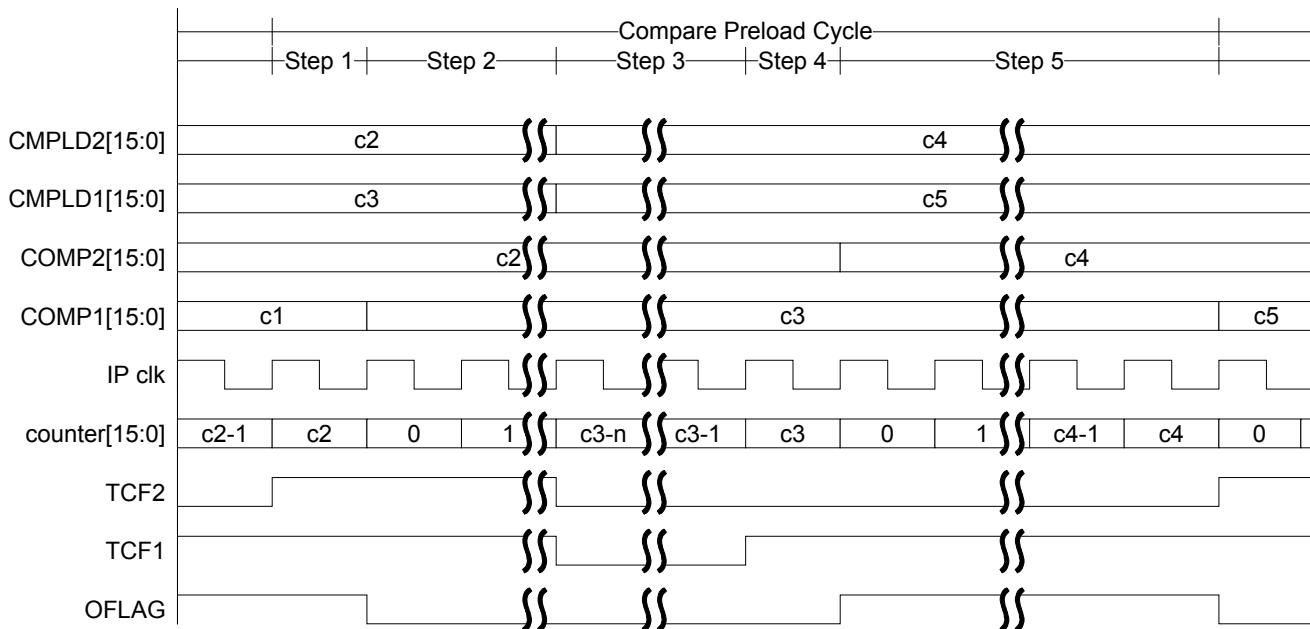

Figure 12-17. Compare Load Timing
- Timing - Figure 12-17 contains the timing for using the compare preload feature. The compare preload cycle begins with a compare event on COMP2 causing TCF2 to be asserted. COMP1 is loaded with the value in the CMPLD1 (c3) one IP Bus clock later. In addition an interrupt is asserted by the timer and the interrupt service routine is executed during which both comparator load registers are updated with new values (c4 and c5). When TCF1 is asserted, COMP2 is loaded with the value in CMPLD2 (c4). And on the subsequent TCF2 event, COMP1 is loaded with the value in CMPLD1 (c5). The cycle starts over again as an interrupt is asserted and the interrupt service routine clears TCF1 and TCF2 and calculates new values for CMPLD1 and CMPLD2.